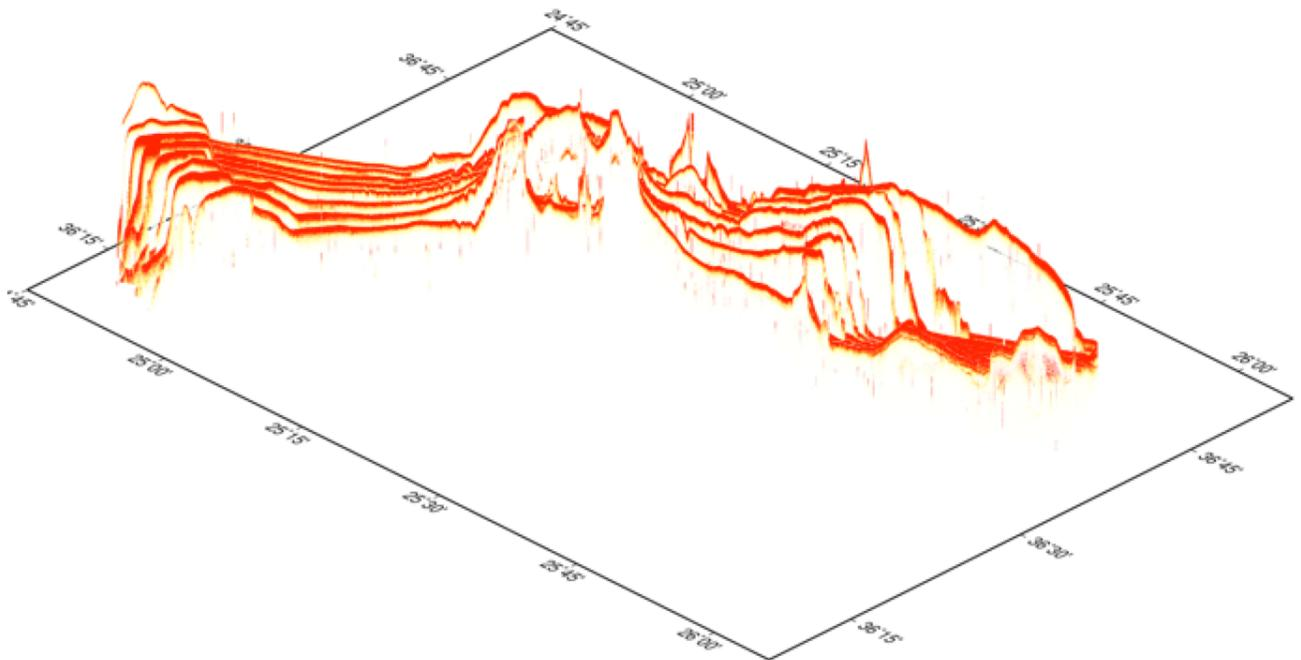

Figure 2: Plot of 12 .su files of Knudsen data
- **Background Magnetic Field Removal:** We estimated the background magnetic field during the cruise using the International Geomagnetic Reference Field 2012 (IGRF 2012) model and a predictive model of the secular variation for adjusted dates between 2015 and 2020. We created a 10m grid of background magnetic variation using the midway cruise date (12/2/15, 2015.91507) and subtracted it from the raw data (Attachment 12). Values in the grid ranged [45310, 45734] nT (fig. 2). Across the cruise dates (11/22/15 – 12/15/15), the magnetic field at the grid boundaries (latitude: [24.7353, 26.0488], longitude: [24.7353, 26.7353]) varied <3 nT.
**Figure 2.** Ship magnetic field correction. Black dots with red lines are raw data with background field removed. White diamonds are mean field strength taken at  $2^\circ$  intervals with standard deviation above and below the mean given by purple lines. Green line is the fit to the data using equation (2).